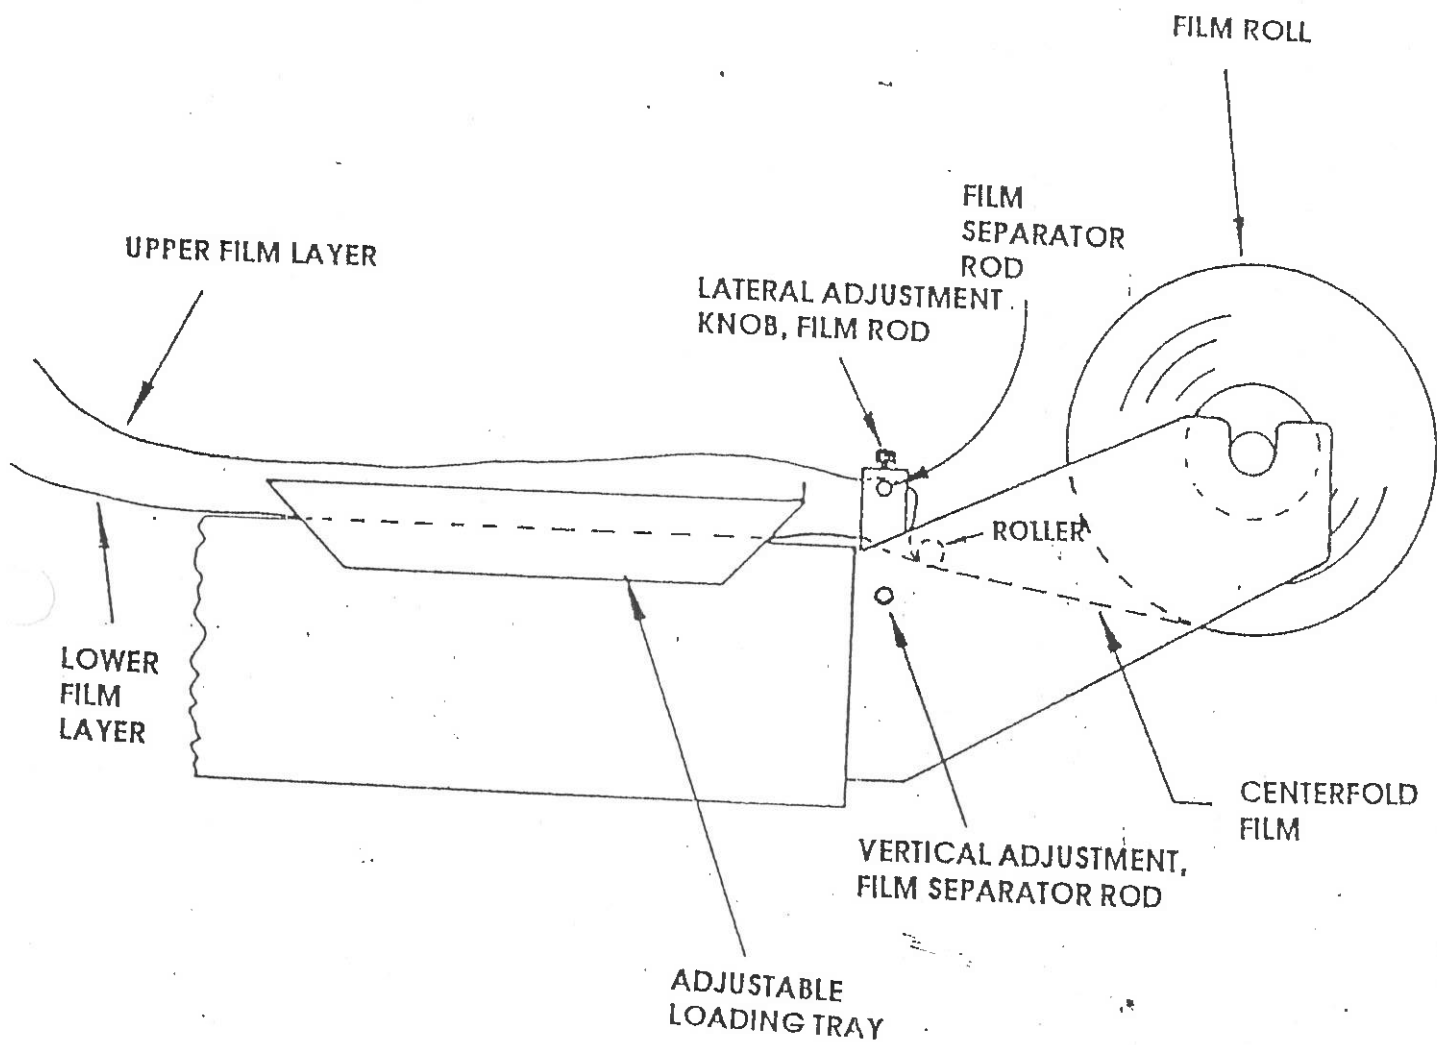
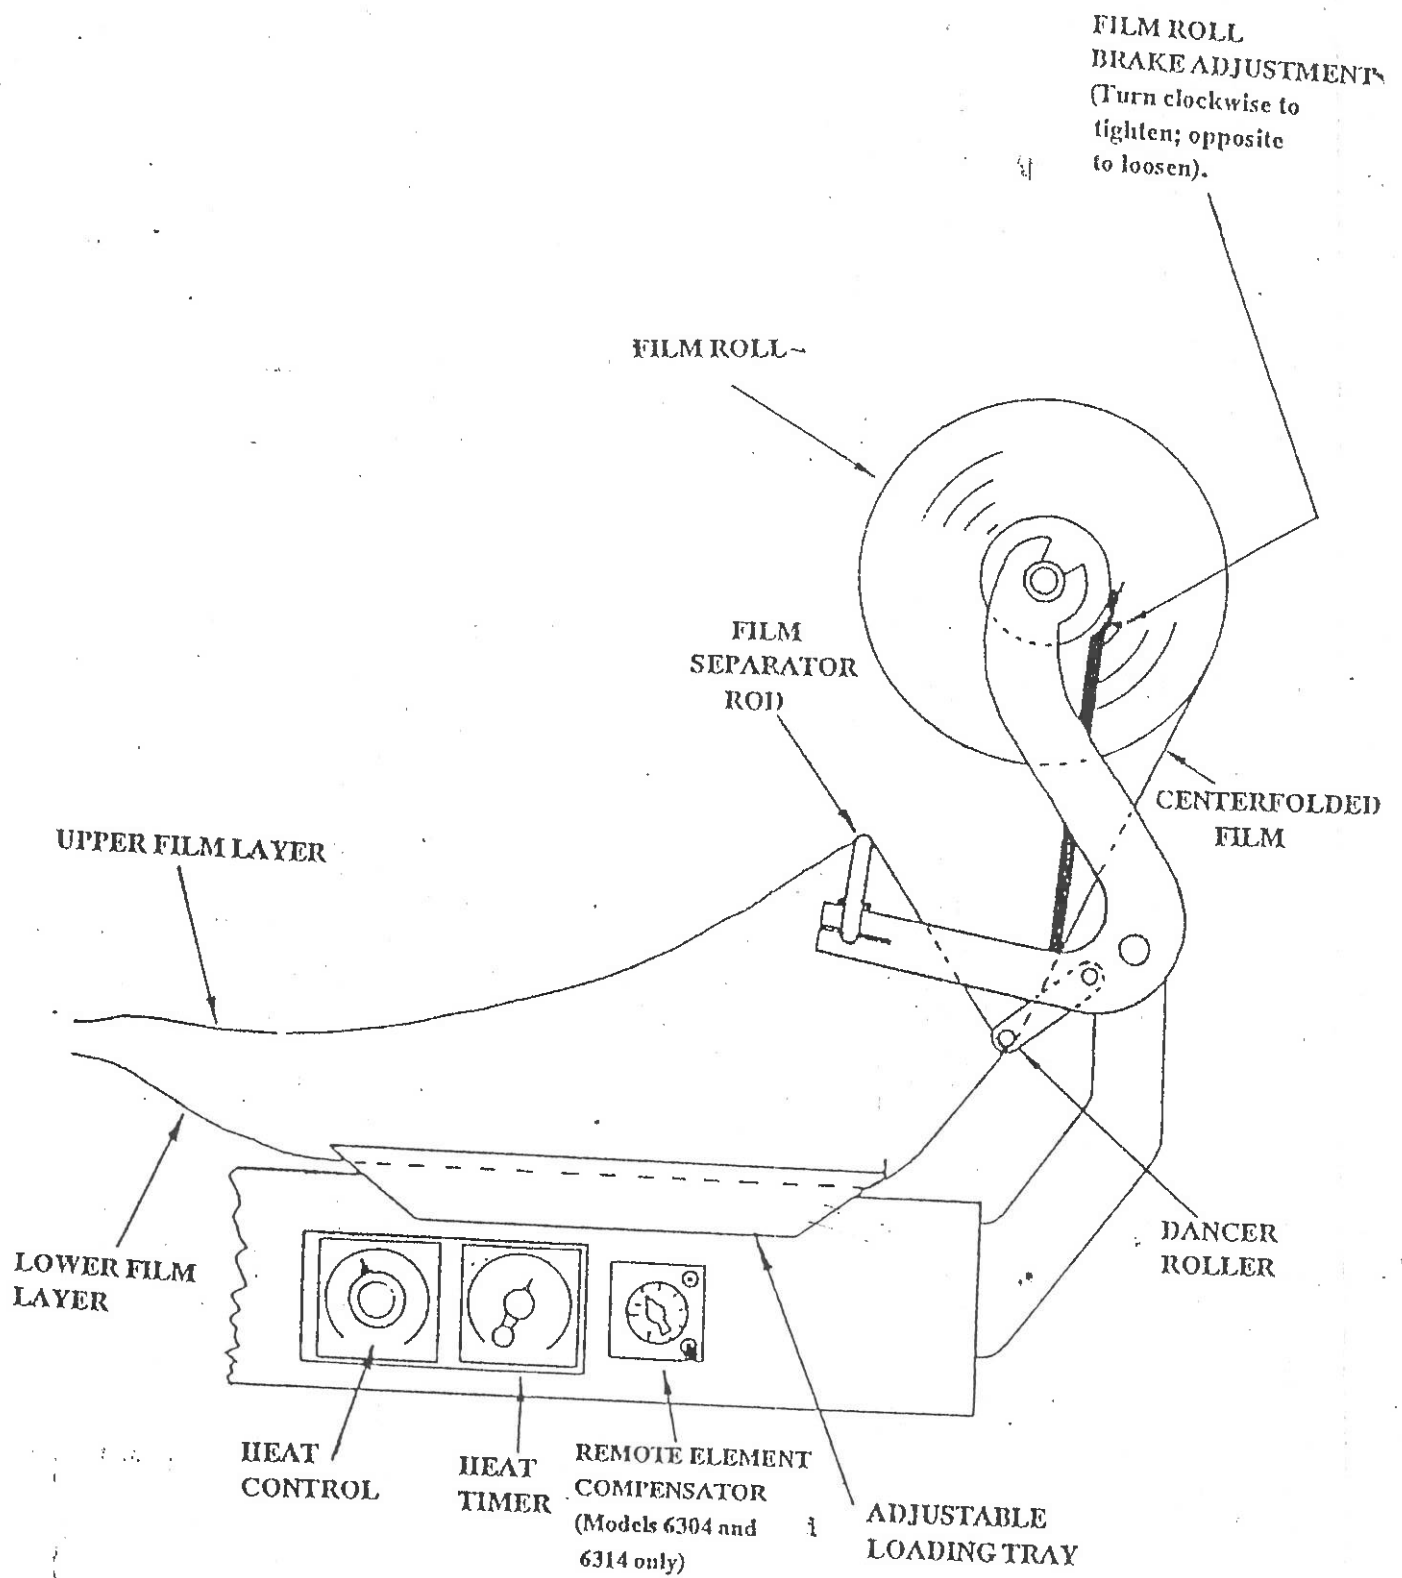

Figure 6.1 Film Threading Diagram, 6000 L-Sealer Series
Figure 6.2 Film Threading Diagram, 6100, 6300, 6400 Series
Refer to Figure 6.1 throughout for 6000 Series Sealers; refer to Figure 6.2 throughout for 6100, 6300, or 6400 Series Sealers.
- a. Refer to either Figure 6.1 or 6.2 (see note at top of this page). Thread film under the roller and pull out several feet of film (sufficient to reach far end of package support tray).
- h. On 6000 Series Sealers, the film separator rod height is adjusted by means of the vertical-adjustment bolt (shown in Figure 6.1). Rod height should be as low as possible consistent with the height of the package being wrapped, in order to prevent excessive drag on the film. On 6100, 6300, and 6400 Series Sealers, the film separator rod height is adjusted by lifting and tipping the film roll rack to the right while raising or lowering the rubber-tipped height-adjusting bolt at the rear side of the roll rack. As with the 6000 Series, the rod should be kept as low as possible, as explained above.
- i. As film is being pulled off the film roll of 6100, 6300, or 6400 Series Sealers, the friction brake should not touch the front cone of the reel. The brake should touch the cone when film is not being pulled off the roll. To increase braking turn the brake adjustment screw clockwise; to decrease braking turn screw counter-clockwise. Test action and readjust as required (see Figure 6.2).
After performing film threading as described in paragraph 6, and as shown in Figure 6.1, plug the sealer's power cord into the proper power source as shown in the listing of paragraph 3.1.
- a. Refer to Figure 6.2. Before plugging in the sealer to its power source, turn the front-panel toggle switch to its "IMPULSE" sealing position (to prevent immediate continuous heating of the sealing elements).
- b. After performing film threading as described in Section 6, and as shown in Figure 6.2, set controls as follows:
- a. Refer to Figure 6.2. Before plugging in the sealer to its power source, temporarily throw the front-panel toggle switch to its "IMPULSE" sealing position (to prevent immediate continuous heating of the sealing elements).
- g. Thread film as described in paragraph 6, and as shown in Figure 6.2, of this manual.